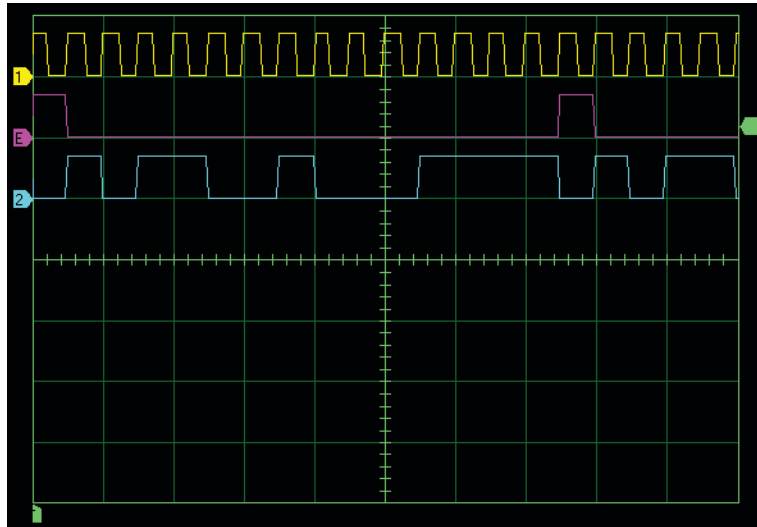

Figure 8. Clock, Sync. and PRBS Data digital (TTL level) signals.
7. Show the Oscilloscope (click  in the toolbar or choose *Instruments* ► *Oscilloscope*). Figure 8 shows an example of settings and what you should observe.